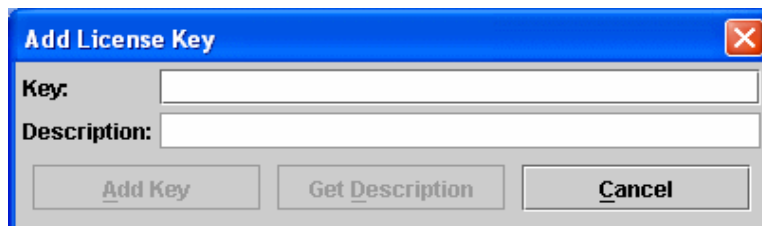

Figure 4-14. Add License Key Dialog
5. In the Feature Licenses dialog, click the **Add** button to open the Add License Key dialog shown in Figure 4-14.